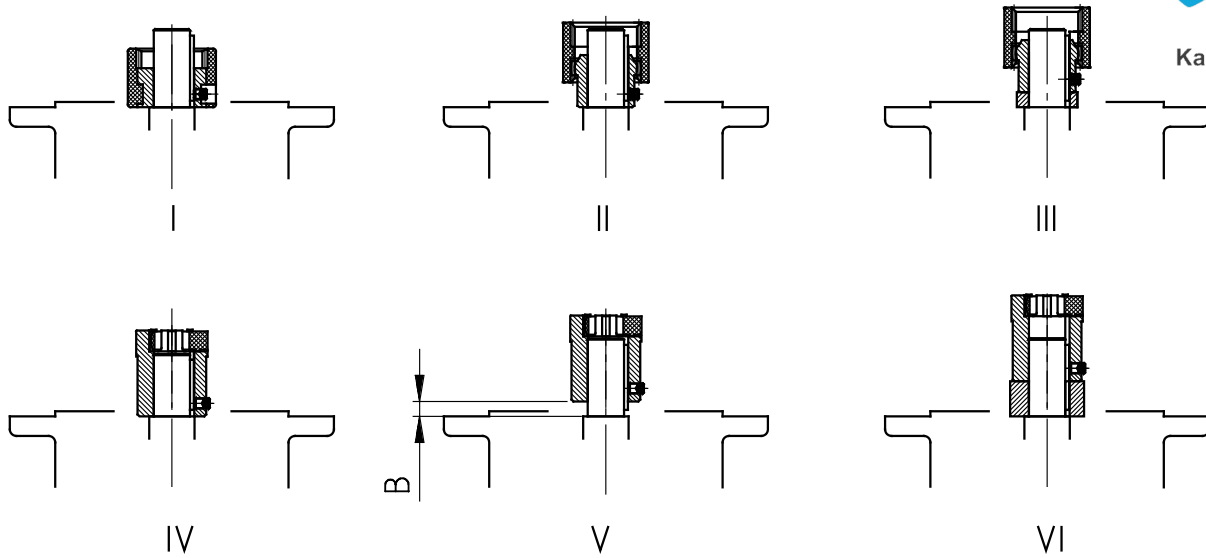

Figure 19: Fitting the coupling onto the motor shaft - various types of coupling
3. Tighten the coupling hub on the motor shaft in accordance with the motor manufacturer's instructions until it touches the collar. With motor sizes 90, 160, 180 and 225, any spacer bushes may need to be positioned between the coupling sleeve and the collar. With standard helical gear units, dimension B between the coupling sleeve and the collar must be observed (see "Figure 19"). Certain **NEMA adapters** require adjustment of the coupling in accordance with the specifications indicated on the adhesive plate.